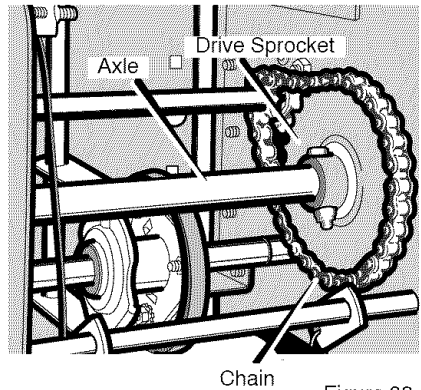

Figure 33
7. Remove the fasteners that secure the **drive sprocket** to the **axle** (see Figure 33).
16. Install the left wheel, **axle**, and **drive sprocket** with the fasteners removed earlier. Install the **chain** onto the **drive sprocket** (see Figure 33).